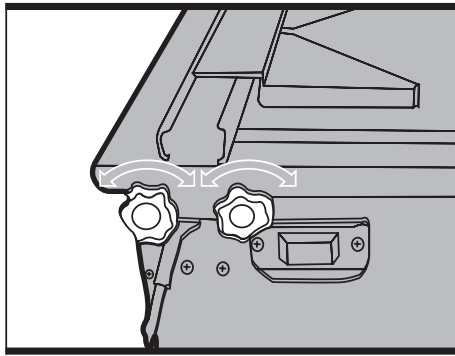

Fig 1
1. FITTING THE PARALLEL GUIDE (see fig1)
Position the parallel guide on work table as shown. Align the holes in the fixing plates with the holes in the upright ends of the parallel guide, fix it with the four securing knobs provided. See fig1.